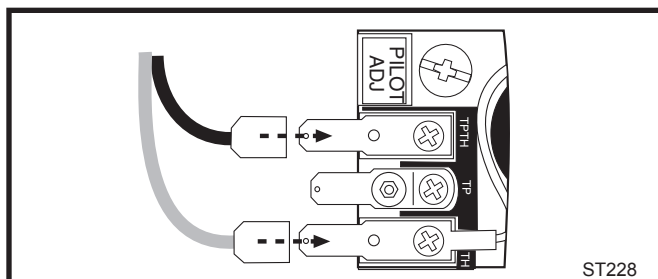

Fig. 42 Attach switch wires to valve.
3. Attach wires to valve terminals. (Fig. 42)
2. Connect the thermostat wires to the valve. (Fig. 42)